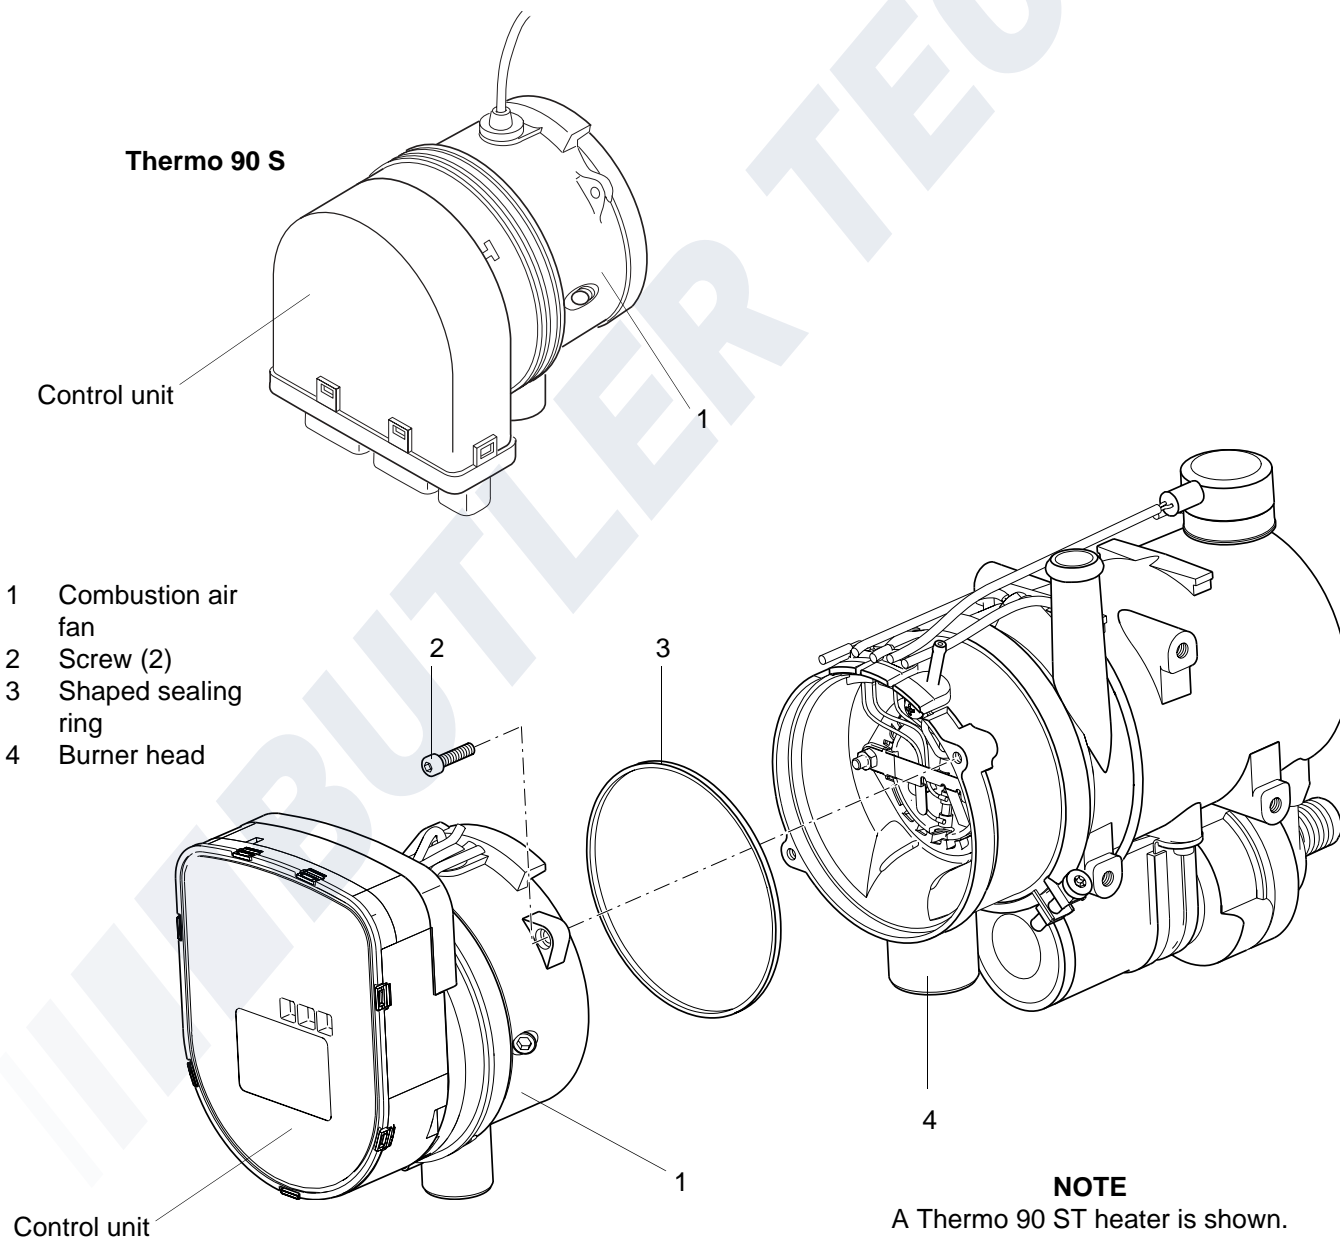

Fig. 904 Changing the combustion air fan
1. Apply acid-free grease (Vaseline) to the round sealing ring (5, Fig. 904).
2. Fit the temperature sensor (6) with the round sealing ring (5) and screw it into the heat exchanger (4). Tighten to 1.5 Nm  $\pm$ 10%.
3. Remove the screws (2, Fig. 904).
4. Pull the combustion air fan (1) off the burner head (4) and remove together with the shaped sealing ring (3).
Insert the shaped seal (3, Fig. 904) correctly and grease it (e.g. with Vaseline). Take care not to squash it.